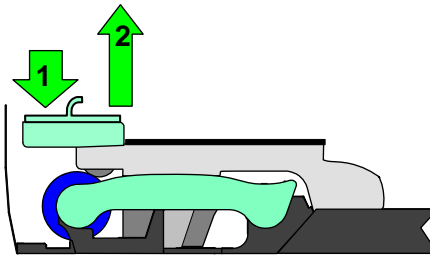

Figure 4-3: Open the swing arm
- 2 Press down on the swing arm until it clicks (step 1 in Figure 4-3). The push latch releases the swing arm. Lift the swing arm by firmly grasping the handle and pulling up until it is fully open (step 2 in Figure 4-3).